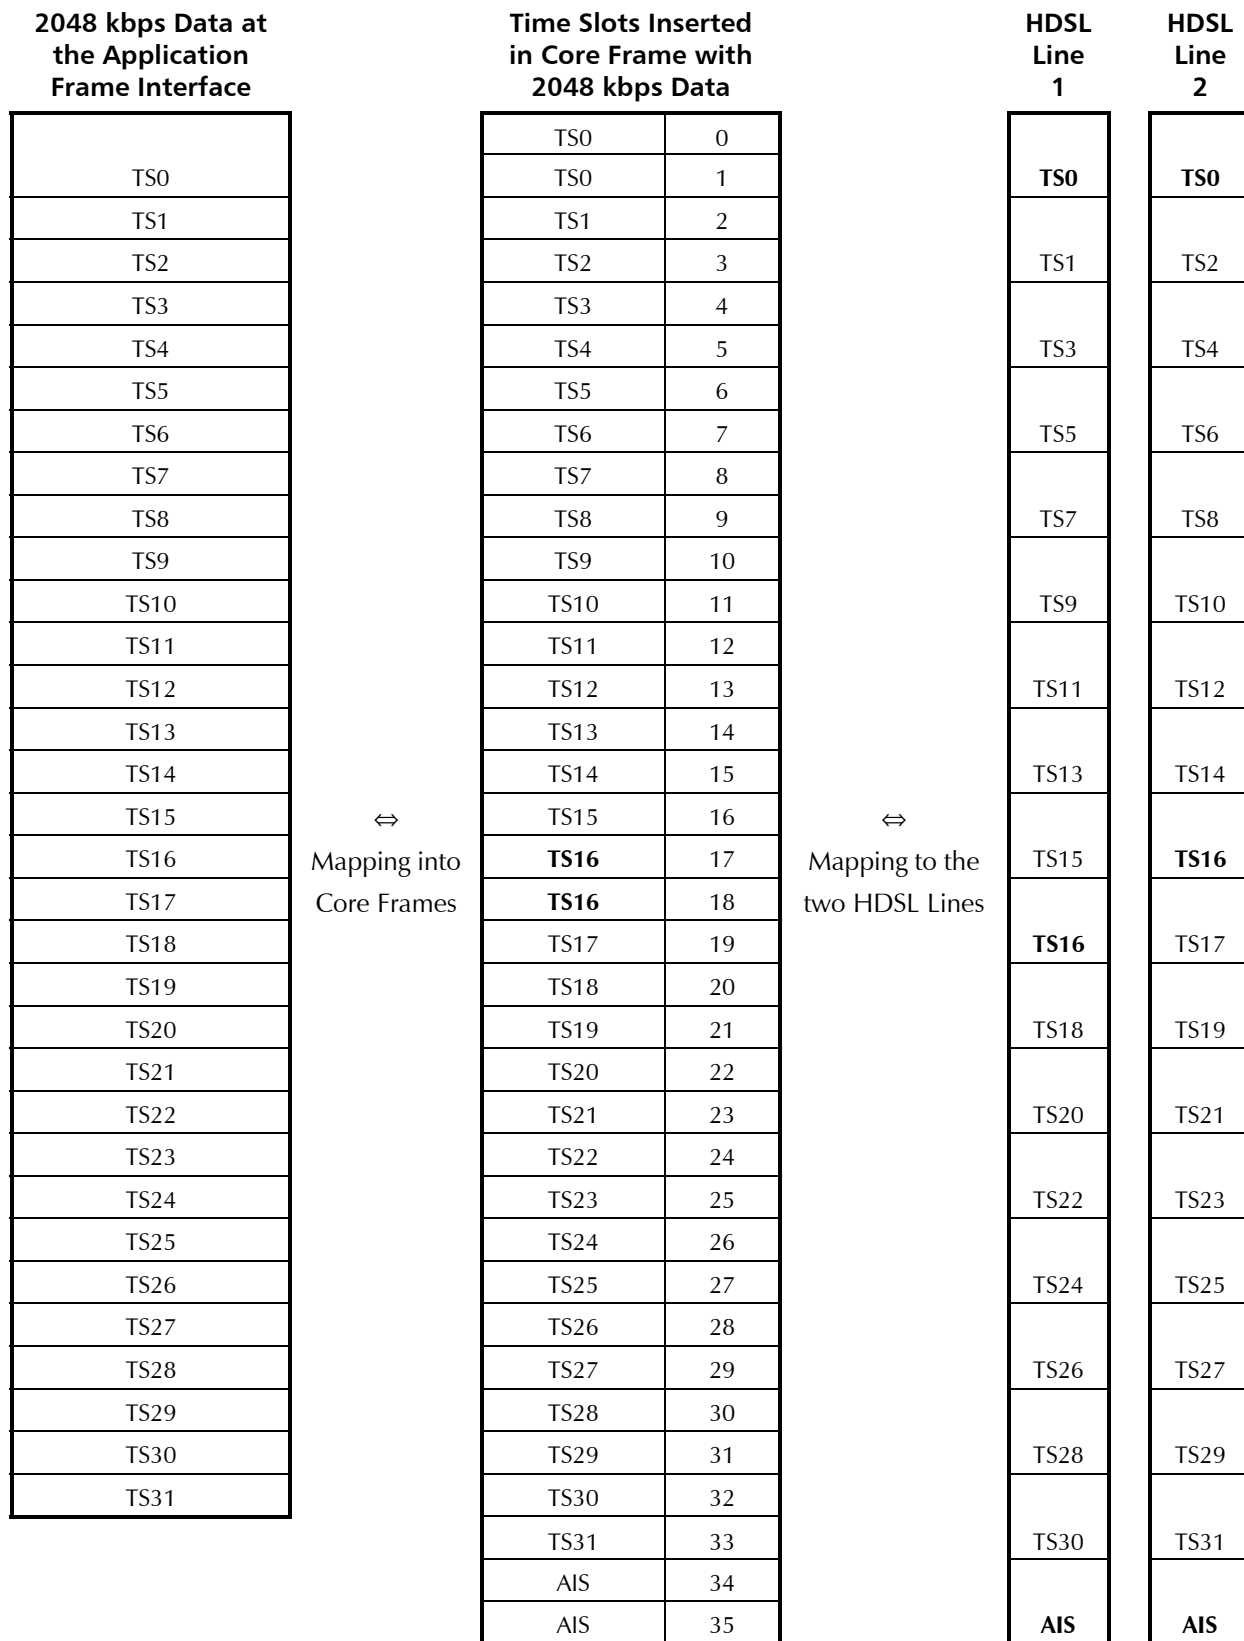

Figure 1-11 Mapping of Core Frame into HDSL Frames
*Figure 1-11* shows the mapping of the 32 application time slots of the core frame into the two groups of 18 time slots carried by the two HDSL lines: